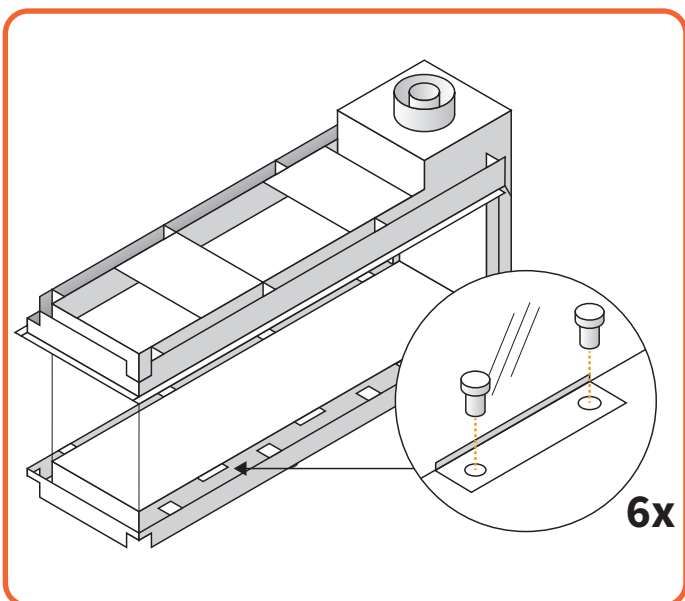

Figure 10.4 - Remove glass clamps
- Remove the glass clamps. (See **Figure 10.4**)